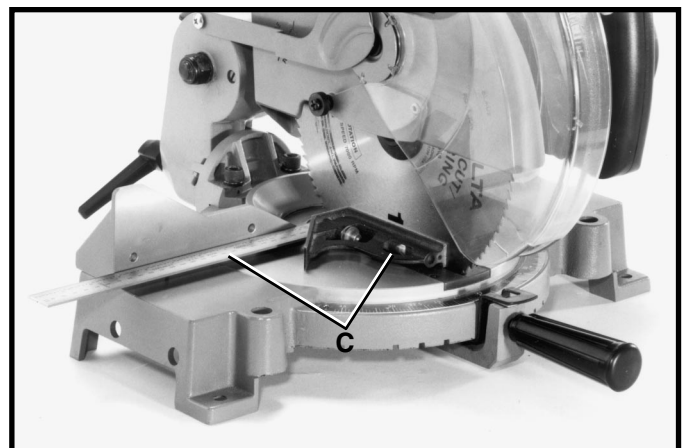

Fig. 27
5. Using a square (C) Fig. 27, place one end of the square against the blade and the other end against the table, as shown. Check to see if the fence is 90 degrees to the blade.